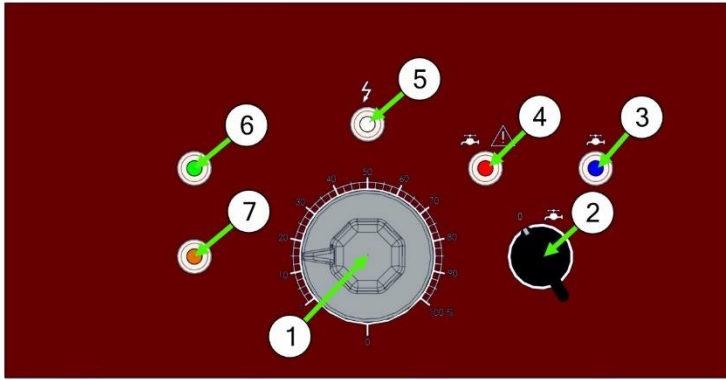

Fig. 5
- 2- The white indicator (Fig. 5 – Mark. 5) will light up.
- 3- Switch the water solenoid switch (Fig. 5 – Mark. 2) from "0" to "ON" position. Water should flow in the water bath. Because you have not put the overflow plug, the water level in the bath will not increase.